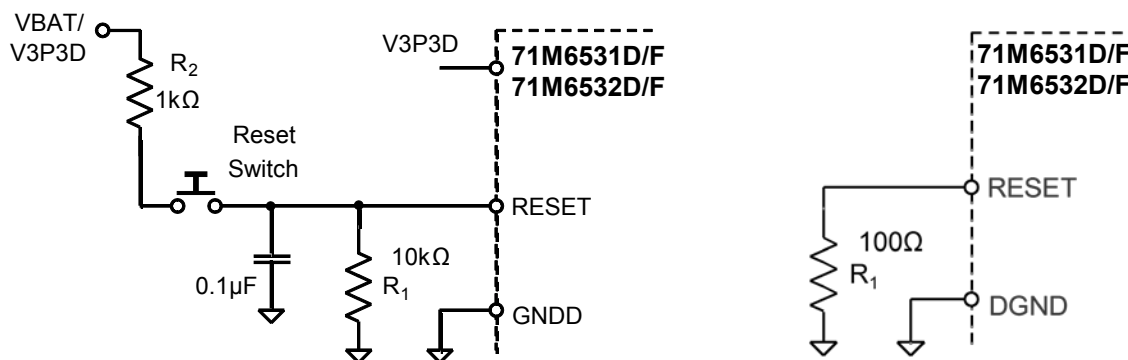

Figure 38: External Components for the RESET Pin: Push-button (Left), Production Circuit (Right)
Even though a functional meter will not necessarily need a reset switch, it is useful to have a reset push-button for prototyping as shown in Figure 38, left side. The RESET signal may be sourced from V3P3SYS (functional in MISSION mode only), V3P3D (MISSION and BROWNOUT modes), or VBAT (all modes, if a battery is present), or from a combination of these sources, depending on the application.
For a production meter, the RESET pin should be protected by the by the external components shown in Figure 38, right side. R1 should be in the range of 100 Ω and mounted as closely as possible to the IC.
- ☒ Since the 71M6531 generates its own power-on reset, a reset button or circuitry, as shown in Figure 38, is only required for test units and prototypes.